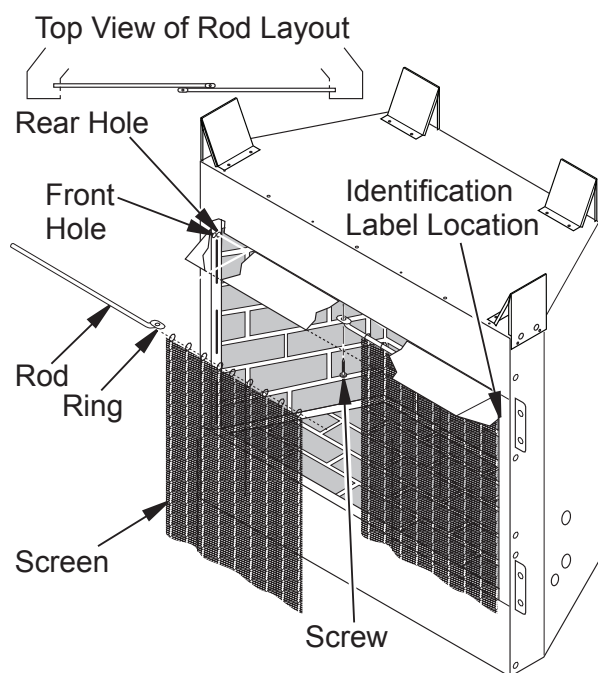

Figure 21 - Installing Fireplace Screen (Model May Vary From Illustration)
3. Insert first rod into rear hole in left side of firebox. Fasten rod to rear hole near center of firebox using #10 x 3/8" Phillips screw provided (see Figure 21).